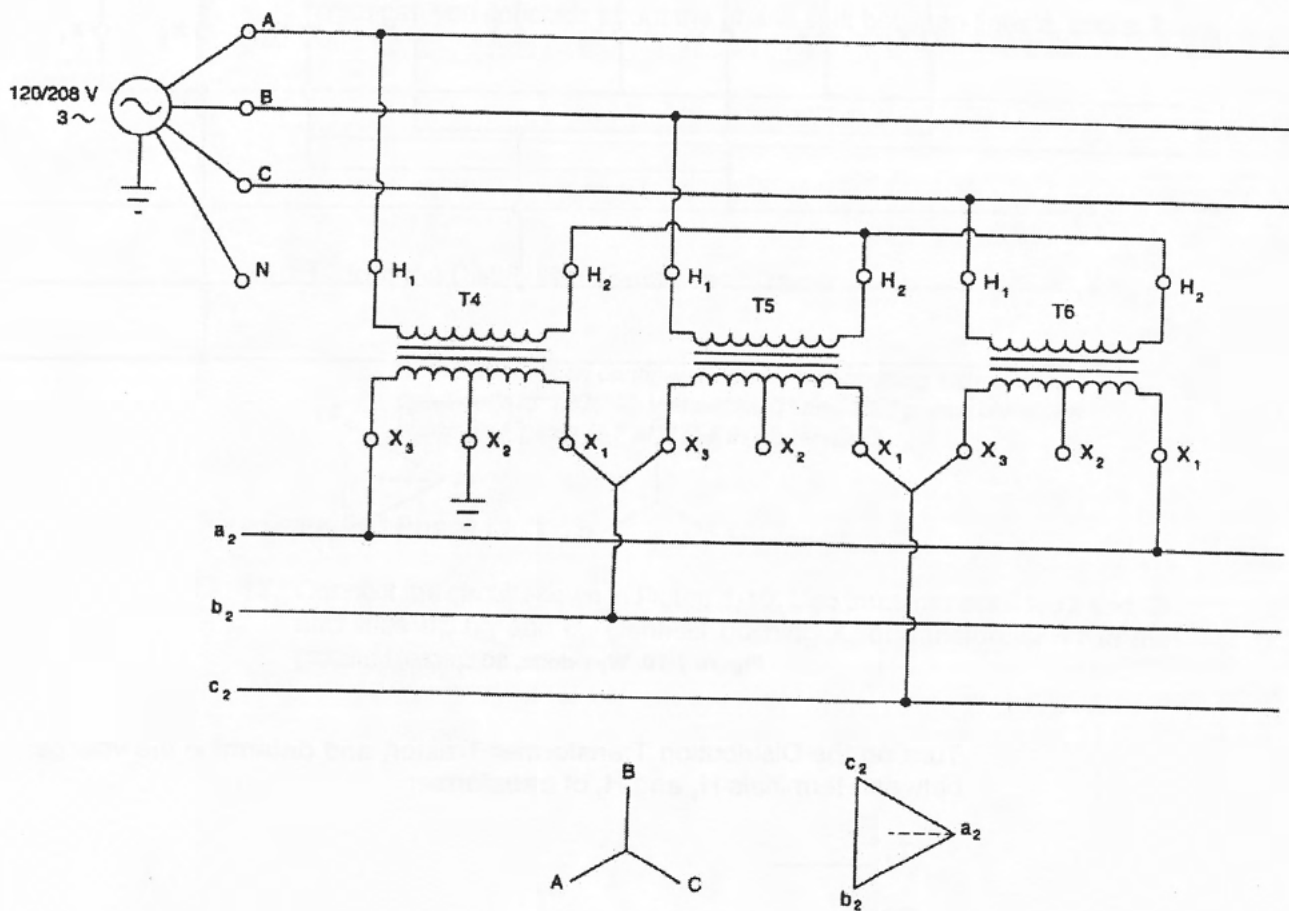

Figure 1-11. Wye-delta, 210° phase shift.
- 14. Connect the circuit shown in Figure 1-11. Use transformers T4, T5, and T6 and lines a_2 , b_2 , and c_2 . Connect bushing X_2 , of transformer T4, to the ground terminal.